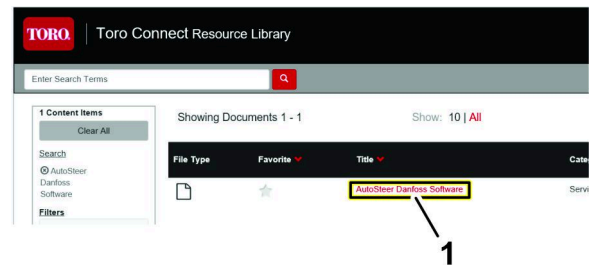

Figure 16
4. In the Showing Documents list, double-click the AutoSteer Danfoss Software hyperlink (Figure 16).